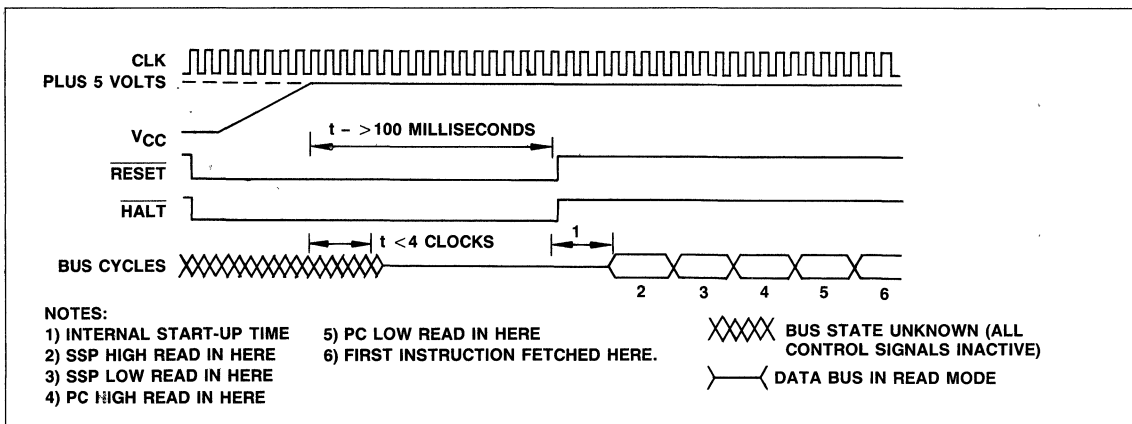

Figure 23. Reset Operation Timing Diagram
**RESET OPERATION.** The reset signal is a bidirectional signal that allows either the processor or an external signal to reset the system. Figure 23 is a timing diagram for reset operations. Both  $\overline{\text{HALT}}$  and  $\overline{\text{RESET}}$  must be applied to ensure total reset of the processor.